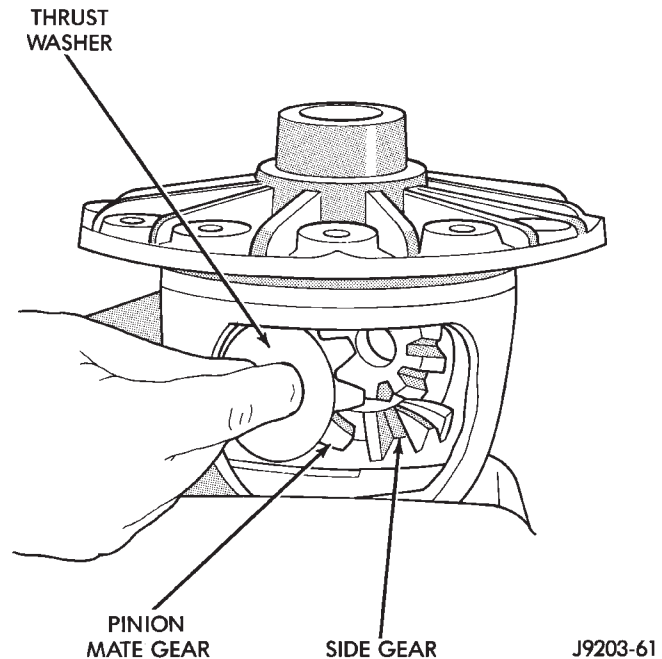

Fig. 41 Pinion Mate Gear Removal
- (3) Remove the pinion gear mate shaft from the differential case and the pinion mate gears.
- (4) Rotate differential side gears and remove the pinion mate gears and thrust washers (Fig. 41).
- (5) Remove the differential side gears and thrust washers.